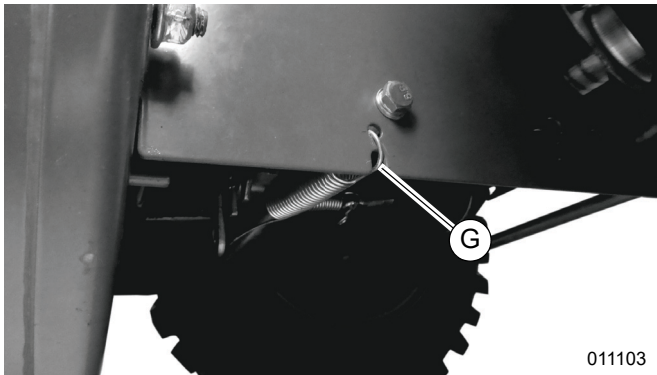

Figure 4-8. Removing Brake Spring
4. See Figure 4-8. Remove brake spring (G) from frame so brake pad will come away from the auger pulley, making room for belt removal.